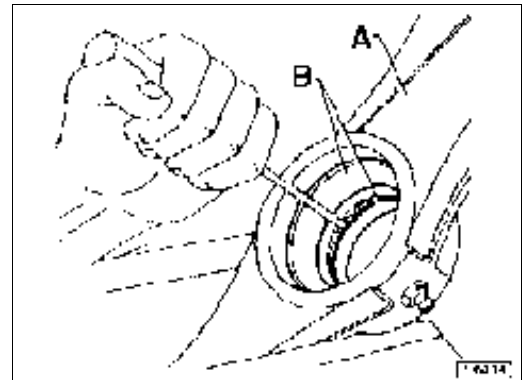

Fig. 14 - Centre steering lever bearing.
- Fix centre lever **A** in a vice if required, and using a light-alloy hammer and punch remove tapered bearing outside races **B**, located in the centre hole (Fig. 14), taking care to remove first the upper race having smaller diameter by tapping from inside outward.